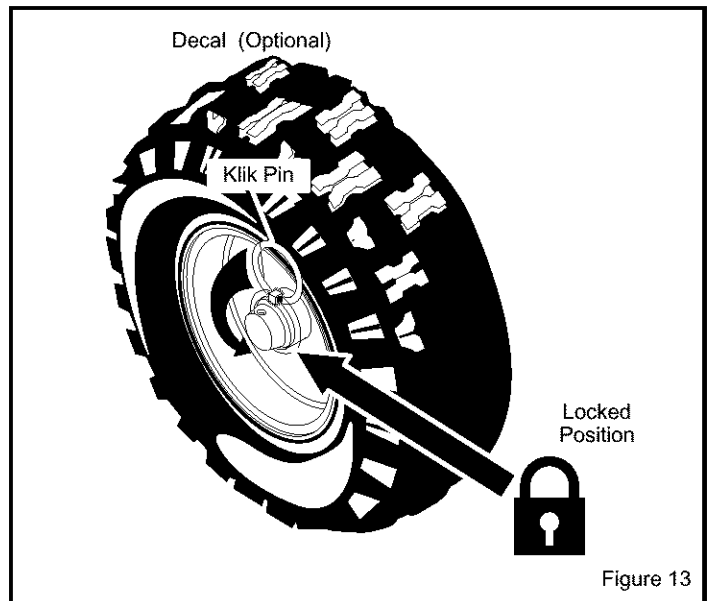

Figure 13
1. The left hand wheel is secured to the axle with a klik pin. This unit was shipped with this klik pin in the locked position. (Figure 13).